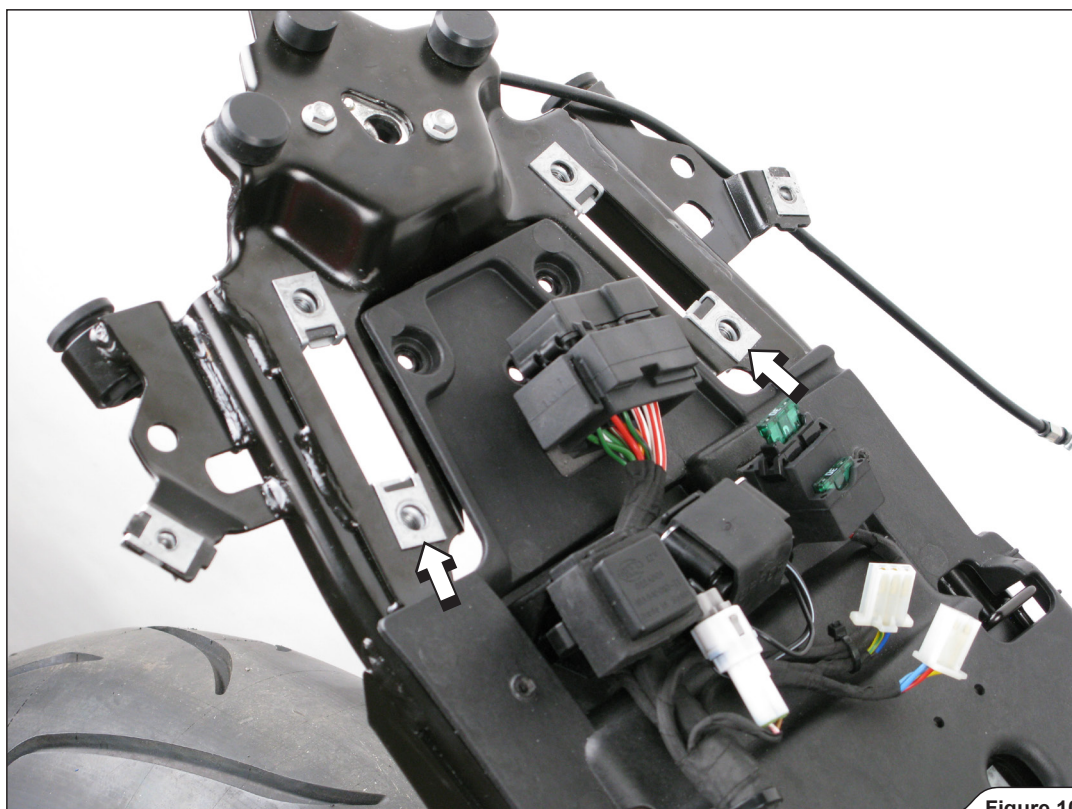

Figure 10
8. Remove the two marked press on nuts (Figure 10).